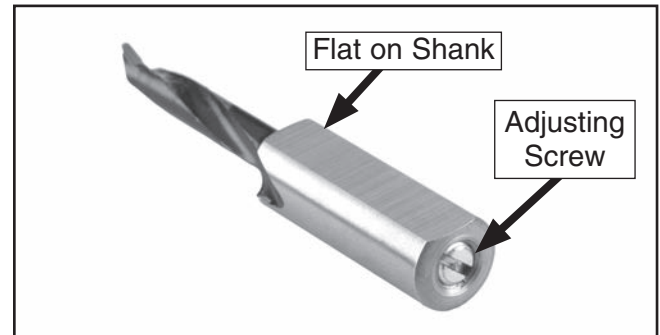

Figure 33. Boring bit.
Boring bits have a flat surface on the shank (see **Figure 33**) to facilitate easy and secure mounting, and they have an adjusting screw for offsetting the drilling depth in relation to the other bits.
- Position the adjusting screws on all of the bits (see **Figure 33**) even with the top of the bit housing.